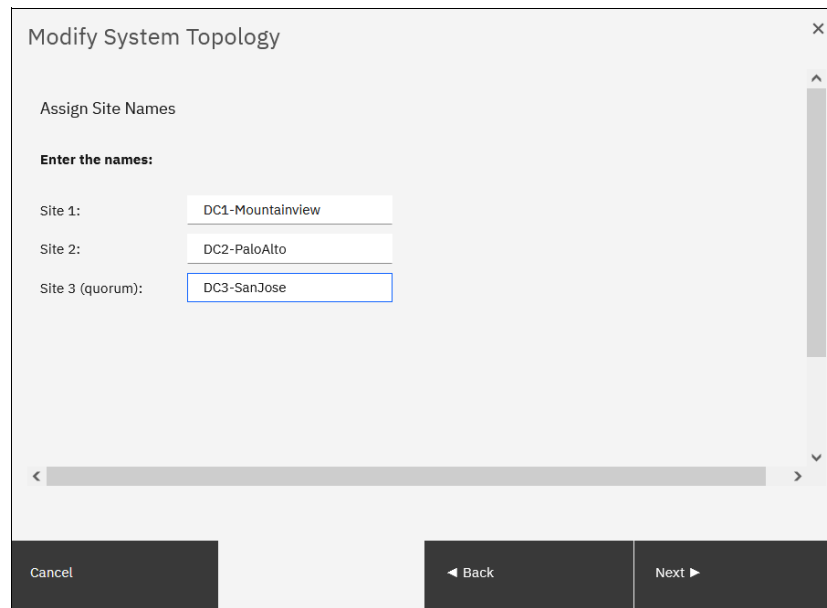

Figure 3-40 Assigning site names
2. The Modify Topology wizard welcome window opens. You are prompted to change the default site names, as shown in Figure 3-40. The site names can indicate, for example, building locations for each site, or other descriptive information. Click **Next**.